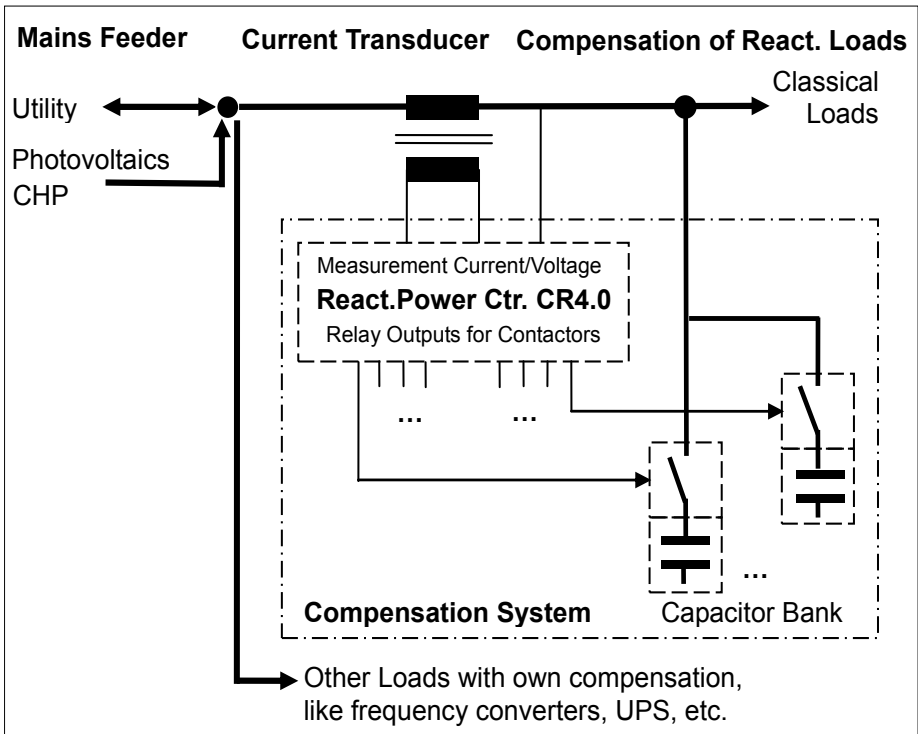

Figure 1 Installation Diagram: Compensation of Classical Loads, only
- The **current transducer** must be placed in-between all left sided feeding equipment and all right sided load equipment including the compensation system itself, see Figure 1 Installation Diagram on page 4. Loads comprising their own compensation (e.g. frequency converters, uninterruptible power supply UPS, etc.) should not be included in the reactive power compensation.
- **Reactive Power Compensation and Emergency Power Supply:** Usually it is recommended that a stationary emergency power plant should not be stressed by a reactive power compensation. The diesel generator itself is able to provide any reactive power needed. For this the emergency power plant has to be connected at the right side of the current transducer, see Figure 1 Installation Diagram. Then the reactive power compensation plant automatically idles when the emergency power plant takes over from the utility feeder.
If you have **power generators** (e.g. a photovoltaic plant) installed with the loads **on the right side** of the current transducer (see Figure 1 Installation Diagram)
With all feeder and the section switches at the left of the current transducer and all loads to be compensated and the compensation system itself at its right side, see Figure 1 Installation Diagram a standard compensation system fits.